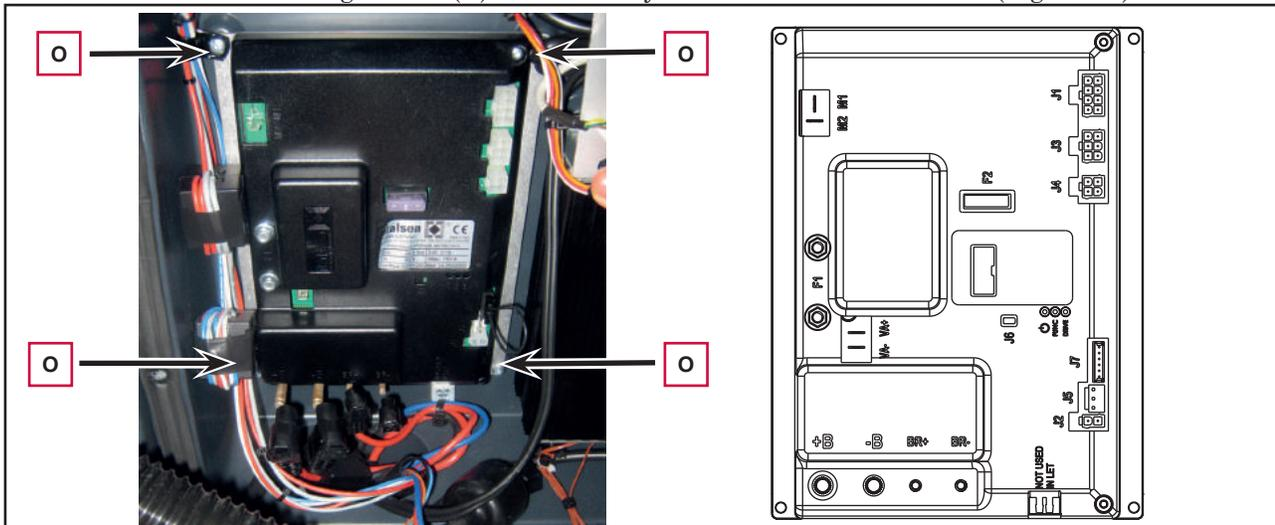

Figure 14
9. Unscrew the 4 retaining screws (O) and carefully remove the function board (Figure 14).